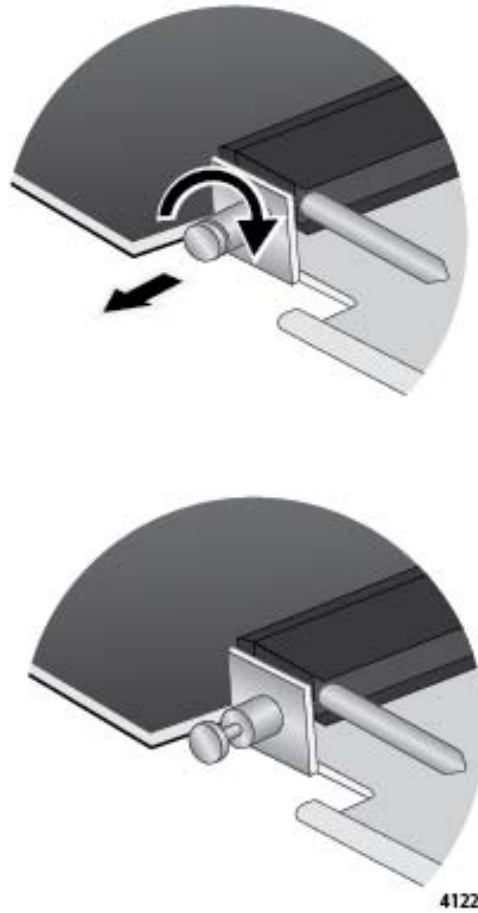

Figure 79. Retracting the Retaining Pin on the AT-SBx81XLEM Line Card
6. With your thumb and forefinger, pull out the retaining pin on the side of the line card and turn it clockwise one quarter turn so that it remains in the retracted position. Refer to Figure 79 on page 143.